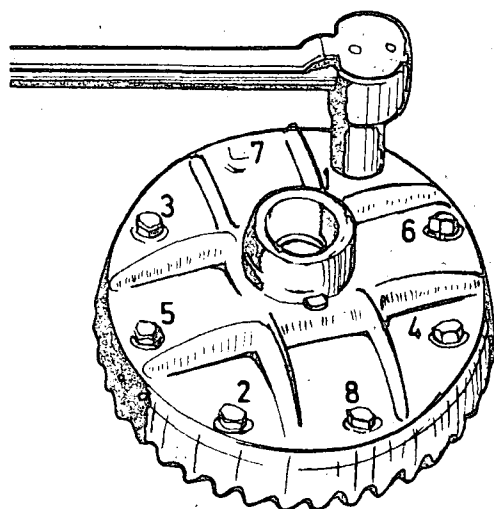

Fig. 3
- Install the crown wheel into the differential cage, tighten the bolts to the recommended torque in the manner indicated in (fig. 3).